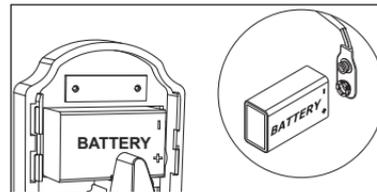
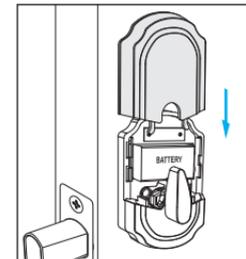

Fig. 12
Fig. 13
Step 7. Install the 9V alkaline battery (Fig. 12) and cover the battery compartment to complete the installation. (Fig. 13)